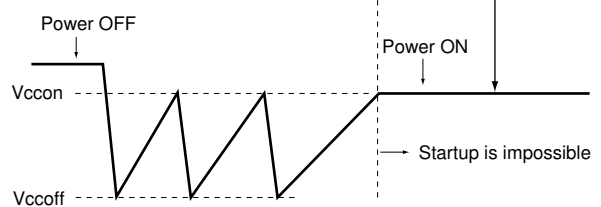

Fig. 22 Image of Vcc waveform when re-startup is impossible
After power-off, once VCC falls down below OFF threshold voltage, VCC rises up again and re-startup occurs while the capacitor C1 is discharged until approximately zero because VCC voltage rises up by the current flowing RA. This operation is repeated several times. After the repeated operation, IC stops in the condition that VCC voltage is equal to Vcon (=ON threshold) because capacitor C1 is discharged gradually and the decreased VCC inclination is out of the condition required by equation (4). After that, re-startup by power-on can not be guaranteed even when equation (8) is satisfied. The image of that the startup is impossible is shown in Fig. 22. It is necessary to startup IC that supply current Icc (startup) to VCC is over 4mA in the condition of Tj < 100 °C during Vcc is kept at Vcon (=16V, balance state at Vcon after the repeated operation.